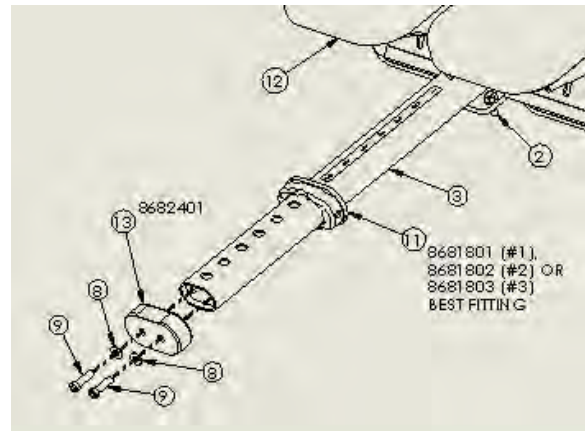
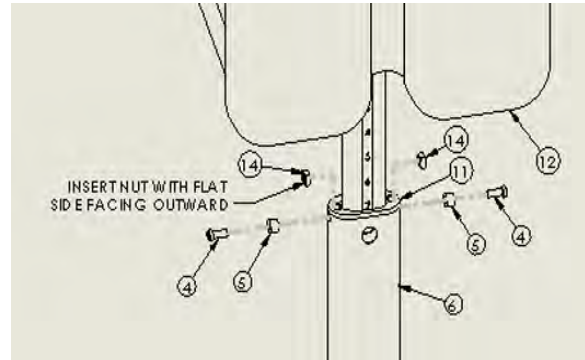

Fig. 4
Fig. 5
6. Once the proper bushing has been selected slide the bushing onto the WAIST FRAME (3) tube making sure the two square pockets of the TOP BUSHING (11) are facing the PADS (12) as seen in figure 5.
7. Attach the BOTTOM BUSHING (8682401) (13) included in the kit to the bottom of the WAIST FRAME (3) with the two BOLTS (7) also included in the service kit and WASHERS (8) removed in step 4 as seen in figure 4.
8. Insert the WAIST FRAME (3) back into the CENTER FRAME (6) allowing the POSITIONING PIN (A) to engage the WAIST FRAME (3).
9. Slide the TOP BUSHING (11) downward and into the top of the CENTER FRAME (6). Insert the two SQUARE NUTS (8681901) (14) included in the kit in the two pockets located on the top of the TOP BUSHING (11) as seen in figure 5.